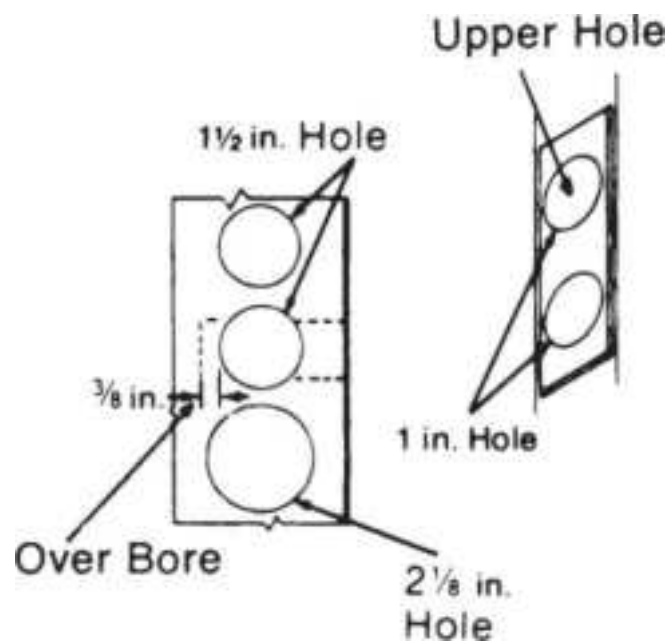

**Figure 13.58** Boring holes.
5. Bore two 1-inch holes in the edge of the door. The upper hole should be extended  $\frac{3}{8}$  inch beyond the far side of the middle hole on the door panel (Fig. 13.58 ). Mortise the edge of the door for the latch front.